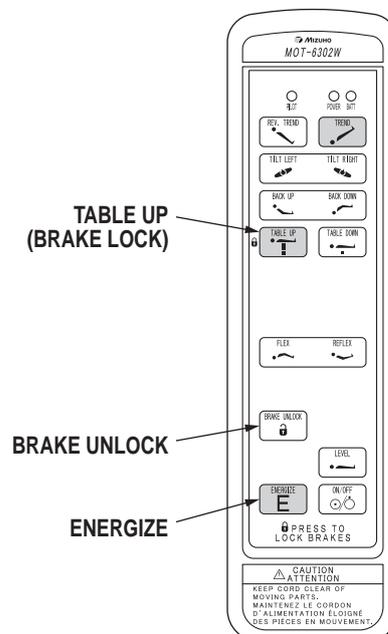

Figure 2-7. Brake System Activation
a. **Floor Lock/Brake System** To activate the brakes without affecting table positioning, press the ENERGIZE button and then the TABLE UP button. See figure 2-7. The elevation cylinder will not function until the brakes are completely extended.
Press the ENERGIZE button and then the BRAKE UNLOCK button on the pendant control to release the four self-leveling brake feet in order to move the table. See figure 2-7. The brake delay circuit automatically retracts the brake system. It takes approximately 7-8 seconds to totally release the system.